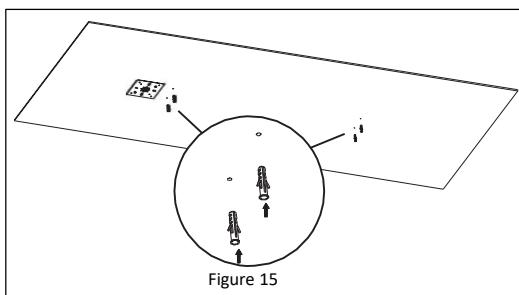

Figure 15
4. Drill the holes according to the marks and insert the supplied anchors. *See Figure 15.*